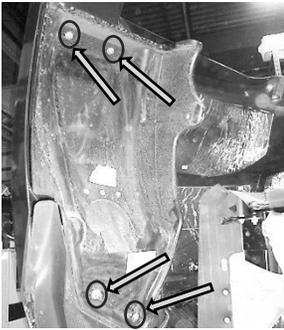

Figure 1 – Driver Side, open hood
- b. Remove fender splash guards by removing the (4) T30 fasteners (see FIGURE 1).